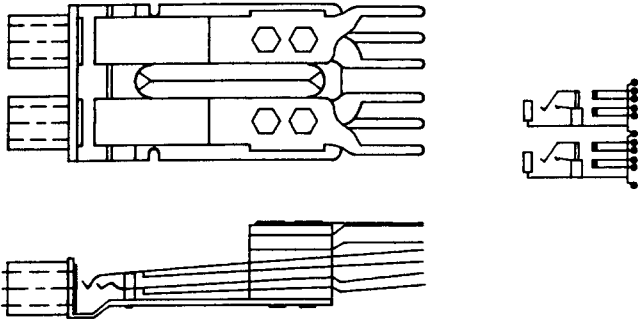

Fig. 4—654AM Jack
**2.04 654AM:** The 654AM jack is a singly-mounted, 3-conductor, twin-type jack (Fig. 4) for mating with a 338- or similar-type twin plug. Each jack's tip and ring elements contains an isolating (break) contact. All terminals are equipped for solderless wrap connections, and the frame has one centrally located mounting hole. This jack is used on the DSX1 test jack assembly.